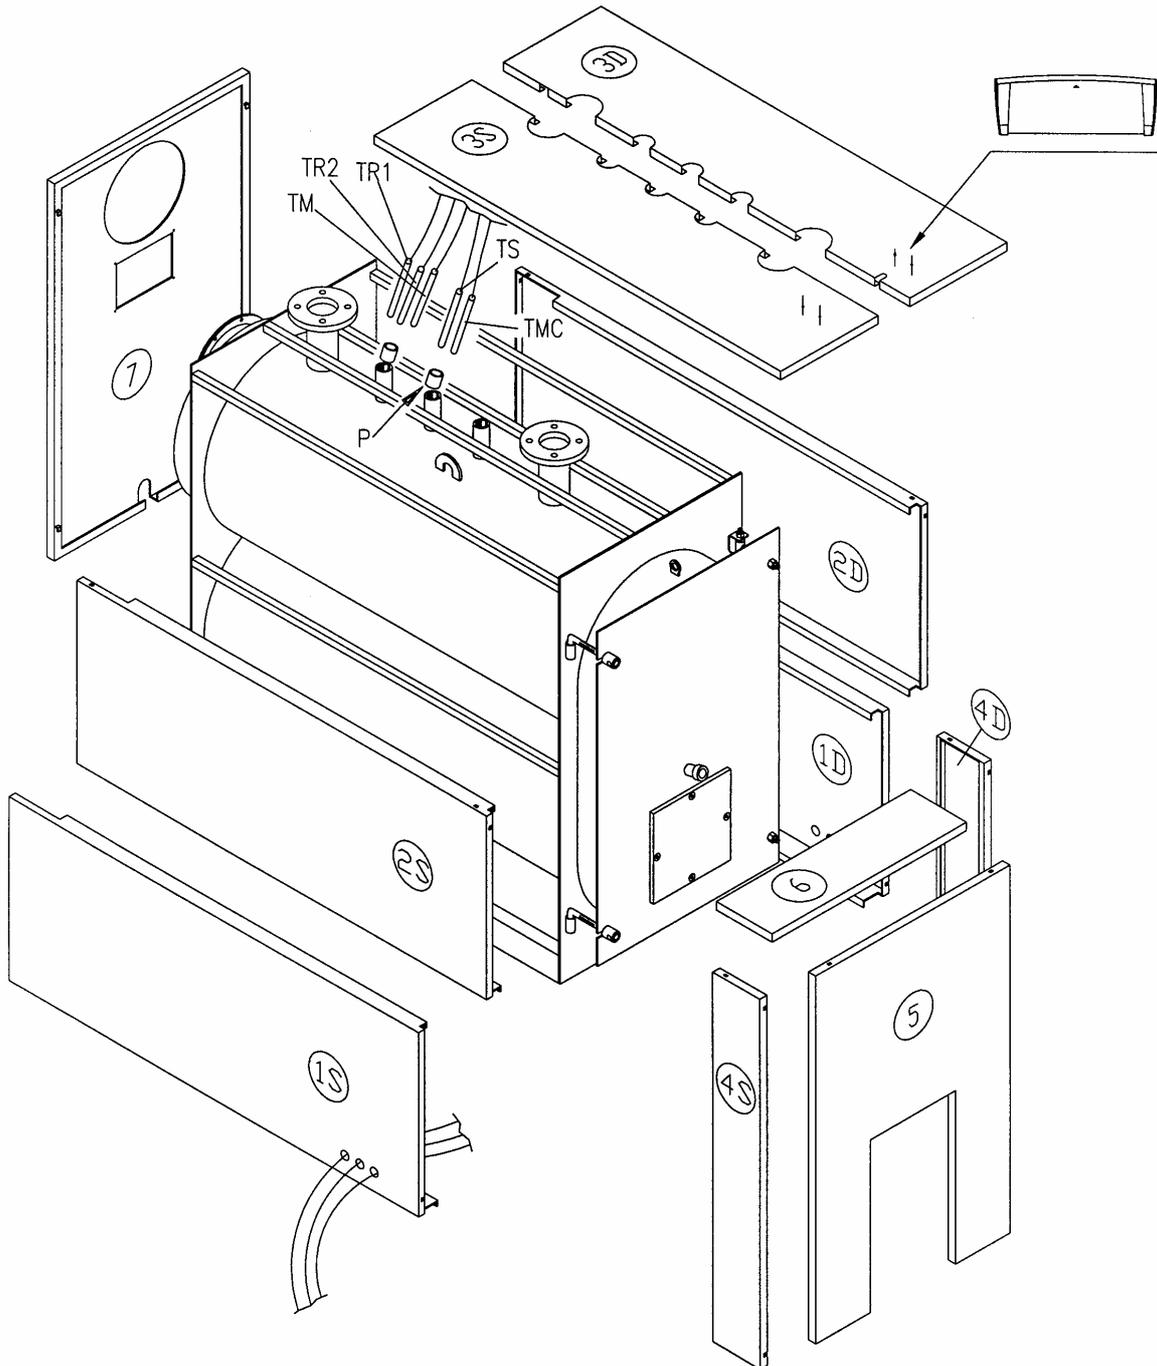

Fig.11
4.5 STR BOILER CASINGS (Fig. 11)
- Fit the panels (4S) and (4D), connecting them to the side panels by means of the brackets; fit the front panel (5) connecting it to panels (4S) and (4D). Close the manhole casing by fitting the upper panel (6).
- Fit the back panel (7), connecting it to the side panels by means of the brackets.